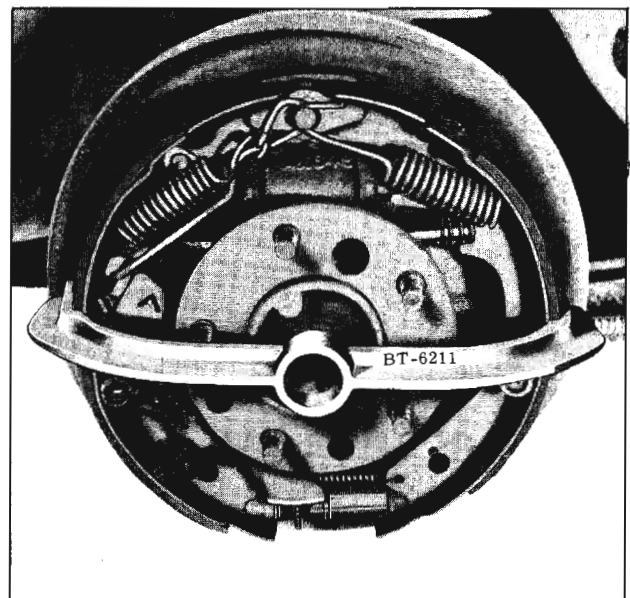

Fig. 7-3 Brake Shoe Gauge
1. With the brake drums removed, position Gauge BT-6211 over the brake linings as shown in Fig. 7-3 (Gauge is offset for oversize linings.)